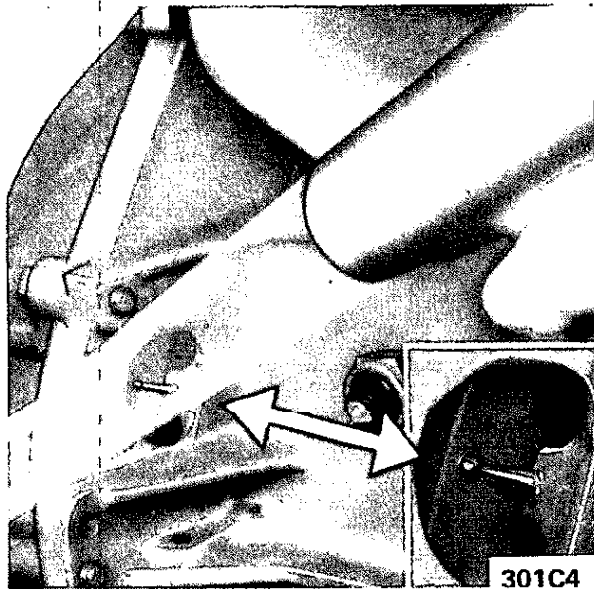

Figure 1C-4 Ignition Timing Marks
5. Rotate distributor as necessary to align timing marks. Timing mark is a steel ball embedded in the flywheel and a pointer in a window in the right flywheel housing. See Figure 1C-4.